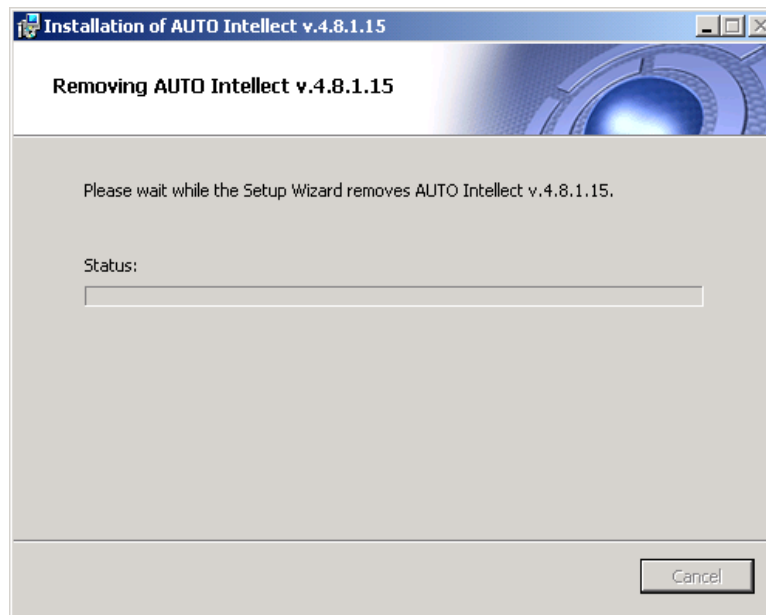

**Fig. 6.5-1 The re-installation option selection dialog box**
Step 2. At this stage of installation you should choose operation to execute with Auto Intellect. To select remove mode set "Remove" check box and click "Next" (see Fig. 6.5-1)